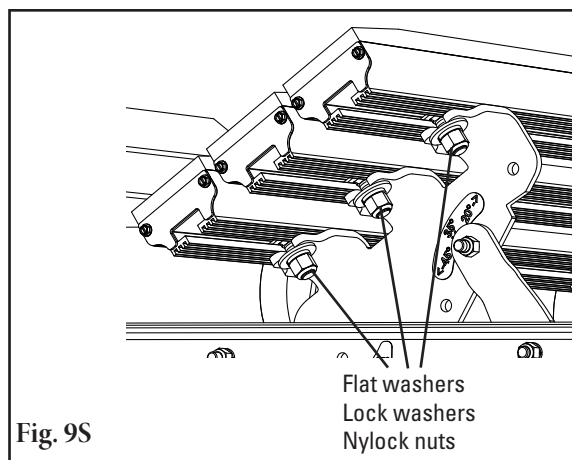

Fig. 9S
**9S. Fasten all impact bars.** With all impact bars correctly positioned on the wing assemblies, install on each stud a flat washer, lock washer and a nylock nut (Fig. 9S). Tighten to 100 ft-lb (135 N-m) torque.